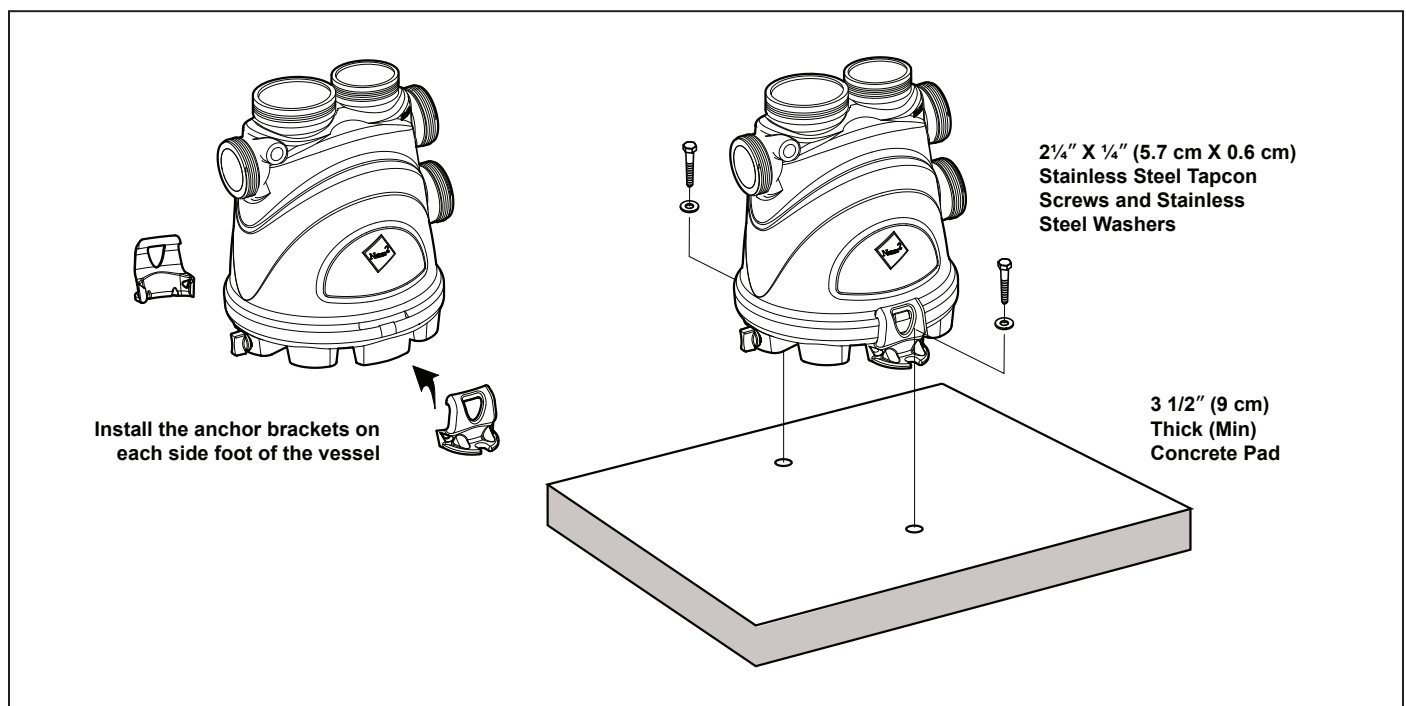

Figure 2. Anchor Bracket Installation
**NOTE** Anchor screws and washers for securing the vessel to the equipment pad are not included with the vessel. Zodiac Pool Systems, Inc. ("Zodiac") recommends that a 2¼" X ¼" (5.7 cm X 0.6 cm) long stainless steel Tapcon® concrete screw and stainless steel flat washer are used to mount each of the two (2) anchors in the base to the equipment pad. The Tapcon concrete screw meets Florida building code requirements.
1. Manually snap on the two (2) clip-type anchor brackets onto the side feet of the vessel as shown in Figure 2. Make sure these anchor brackets are attached firmly to the feet of the vessel.
3. Drill a 5/32" (0.5 cm) hole in the concrete at each of the two (2) hole locations of the anchor brackets. The correct size concrete drill bit should be obtained when the concrete screws are purchased.
4. Install the Tapcon screws and washers into each of the two (2) holes to secure the vessel to the equipment pad. Do not over-torque the screws.